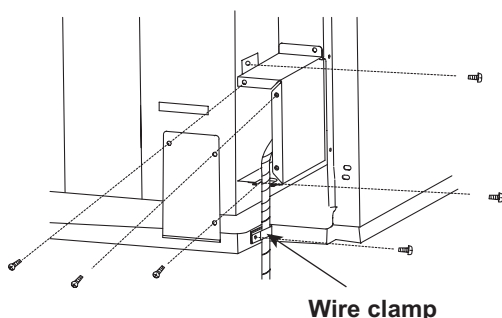

Fig. 16 – Wire Clamp
- Use wire clamp to attach power cord to basepan. Secure with screws (included) See Fig. 16.